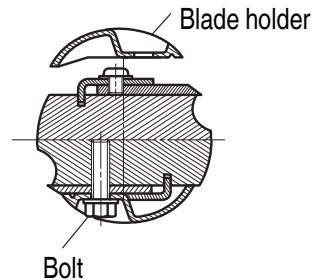

Fig. 24
- (2) Place the blade holder on the completed assembly, as shown in **Fig. 24**, and fasten it with the three bolts. Ensure that the bolts are securely tightened.
- (3) Turn the cutter block over, and set the opposite side in the same manner.